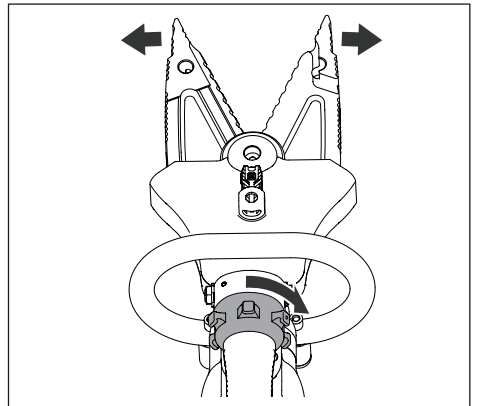

Figure 8, Blades/Jaws Open
- Rotate the knob to the right and hold it to open the blades/jaws. See Figure 8.